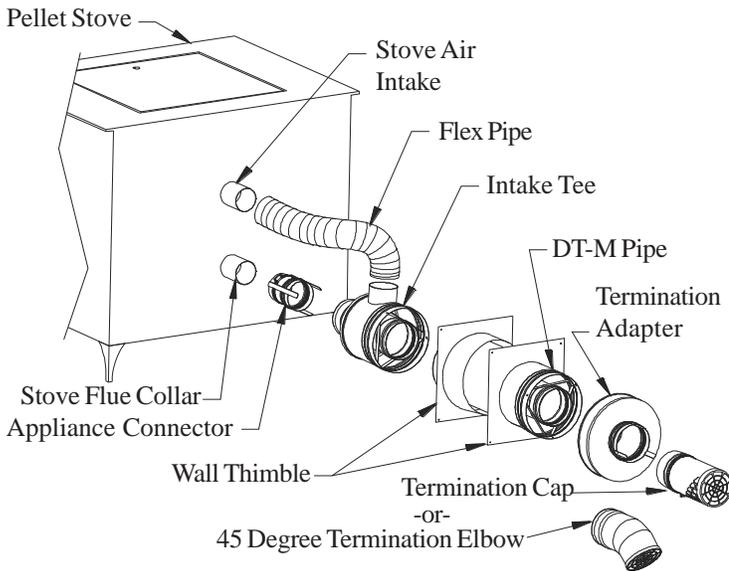

Fig 2. (Straight Out Installation)
- a. If venting horizontally, connect vent sections directly to the Pipe Connector (see Fig. 2).